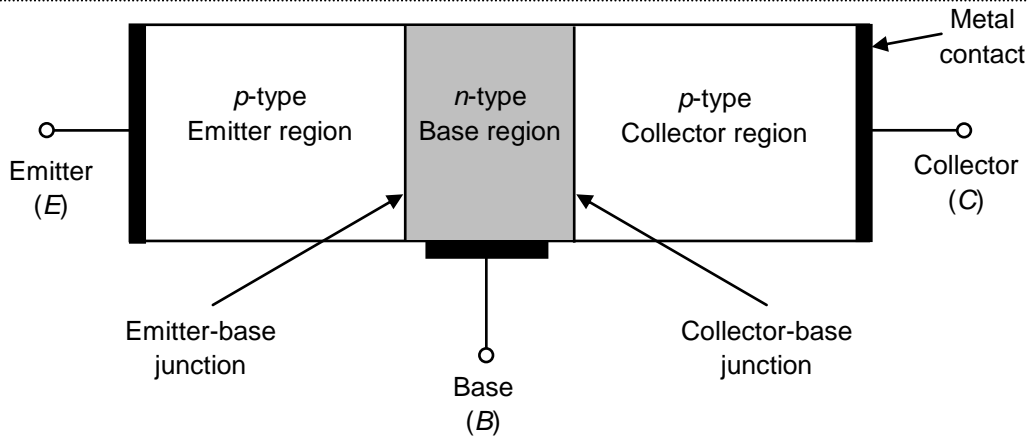

Fig. 3.17: Structure of a  $p-n-p$  transistor.
1. a) Fig. 3.17 shows the labelled diagram of the structure of the  $p-n-p$  transistor.